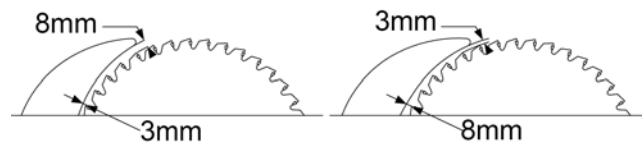

Fig. 29
2. The distance of the riving knife from the gear rim must be between 3 mm and 8 mm measured radially through the center of the saw spindle. As shown in **Fig. 29**.